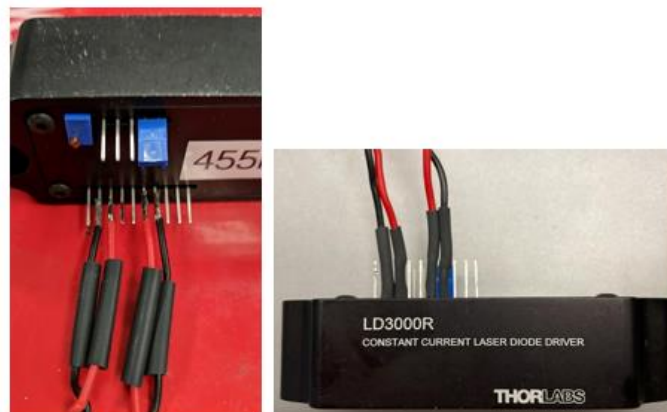

Figure 2 Driver's wire connections.
2. Connect the wires from the LED to its respective driver (pin 2 and pin 3) according to the pin configuration outlined in Table 2. It is important to note that the LD3000R driver uses negative voltage. In order to keep a consistent colour coding and avoid confusion later on, we chose to use black for ground and red for $-V$. Use heat shrink wire protection to cover and isolate the pins as shown in Figure 2.
3. Connect wires to the driver's anode and cathode (pin 6 and pin 7) according to Table 2. Use heat shrink wire protection to cover and isolate the pins as shown in Figure 2.